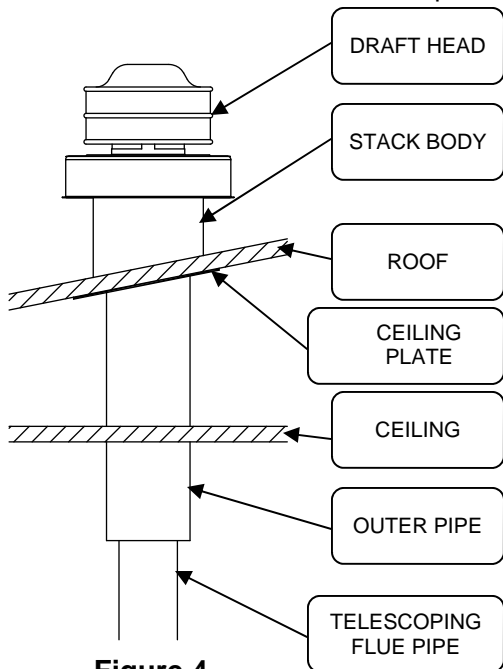

Figure 4
Step 12. Insert the roof jack into the opening in the roof and ceiling and fasten the flashing of the roof jack to the roof with the sheet metal screws provided. Apply additional mastic to complete the weather seal (see Figure 4).
Step 13. If optional ceiling plate is used, place over outer pipe against ceiling and secure with (4) screws (see Figure 4).